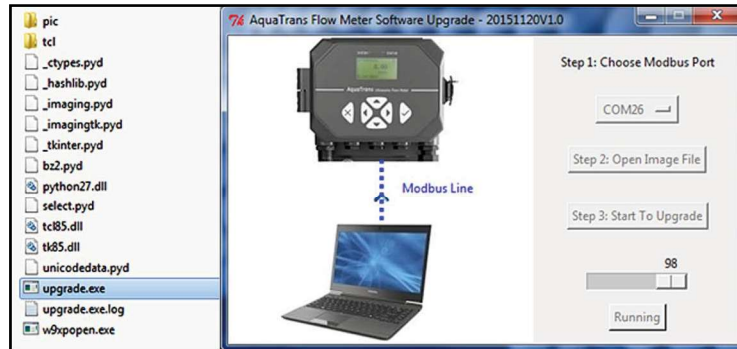

Figure 37: Running the update.exe Software
3. Run the update software by clicking on the upgrade.exe file (see *Figure 37* below). Installation of the software on the PC is not required.